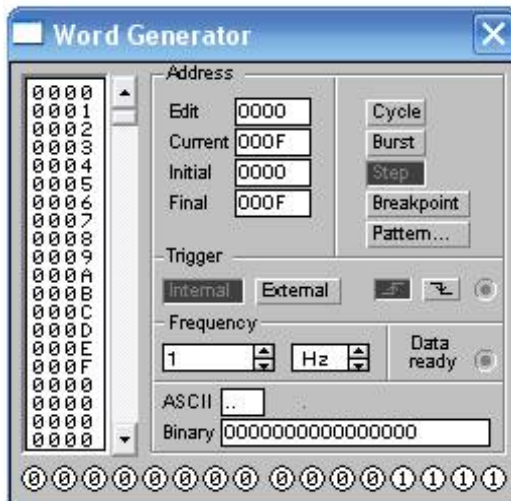

Figure 9.4 - Programming the word generator
4. Program the word generator as shown in fig. 9.4